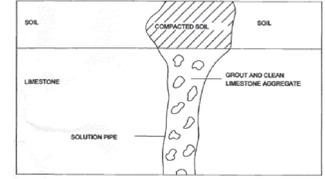

FIGURE 9
**REPAIR METHOD 2 (FIGURE 9)**